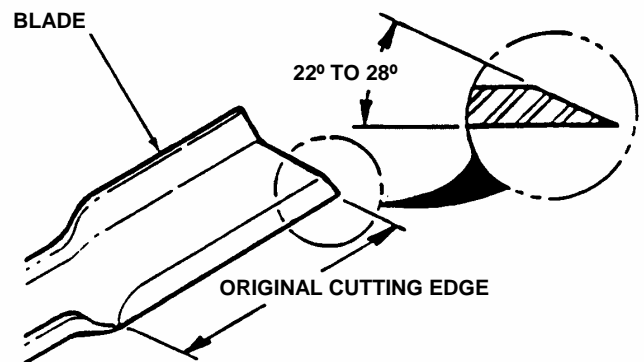

FIGURE 5.15
3. If blade is in good condition, sharpen at 22 to 28 degrees. DO NOT sharpen beyond original cutting edge. See Figure 5.15.